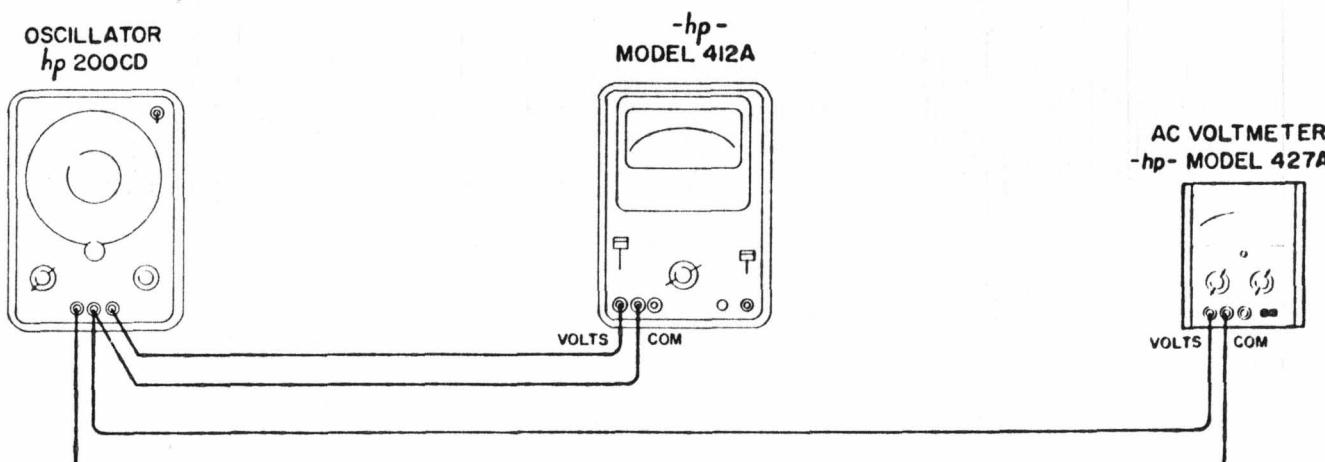

Figure 5-2. AC Rejection Check
- Connect the Model 412A/AR, oscillator, and ac voltmeter as shown in Figure 5-2.